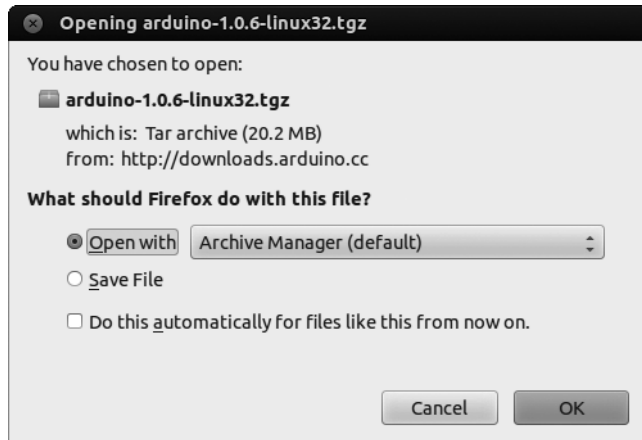

Figure 1-23: Downloading the file
2. In the IDE download page, locate the latest stable version of the IDE, which is currently 1.0.6. Then click the Linux **32-bit** or **64-bit** link, depending on your system. When the dialog in Figure 1-23 appears, select **Open with Archive Manager** and click **OK**.